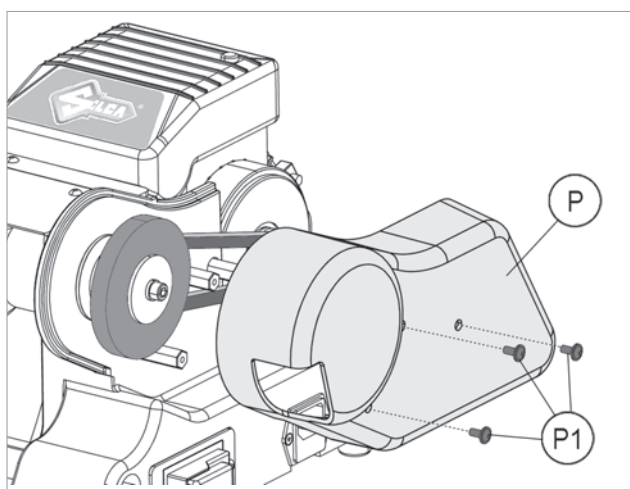

Fig. 28
- 1) Remove the cover (P) by loosening the screws (P1) (Fig. 28).